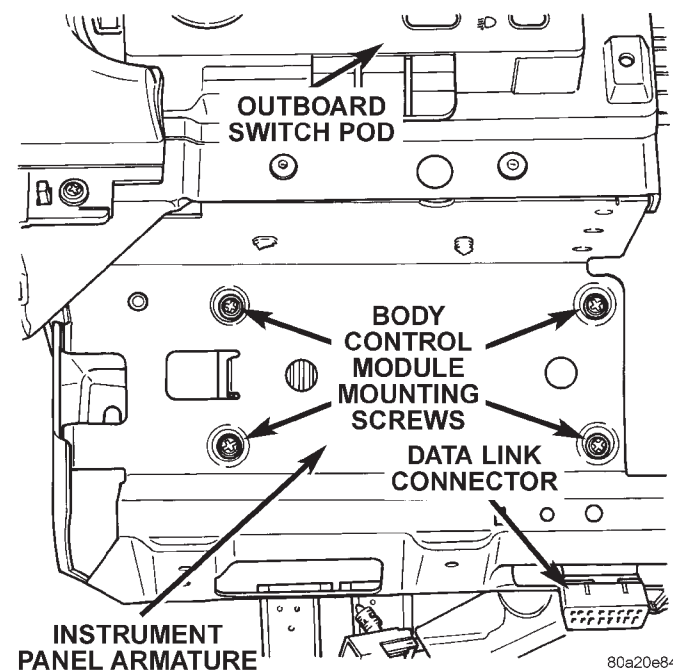

Fig. 12 Body Control Module Remove/Install
(1) Remove the steering column opening cover/knee blocker from the instrument panel. See Steering Column Opening Cover and Knee Blocker in this group for the procedures.
(2) Remove the four screws located below the outboard switch pod that secure the Body Control Module (BCM) to the instrument panel armature (Fig. 12).